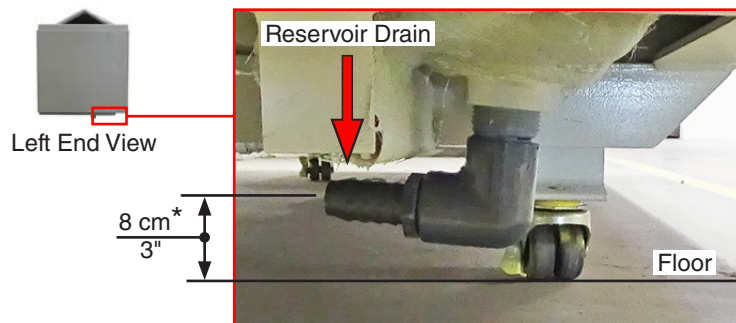

Figure 6.7e: Solution reservoir drain location.
- The user must attach a 19 mm (3/4") hose and ball valve shut off (all supplied) to the reservoir drain (Figure 6.7e).